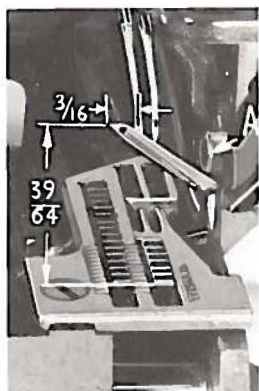

Fig. 11
Next, turn the handwheel until upper looper is at the left end of its travel. Check dimensions of upper looper point with respect to the left needle and throat plate (Fig. 11). If resetting is necessary, do it by moving the upper looper holder (A, Fig. 11). Figure 11 represents the correct dimensional setting.
If it becomes necessary to move looper thread pull-off (AF), be sure to take up all end play in needle drive shaft before tightening. If upper looper is located so that it is higher over throat plate than recommended in (Fig. 11), the purl will tend to form near top edge. If upper looper is too low, the purl will form nearer bottom edge.